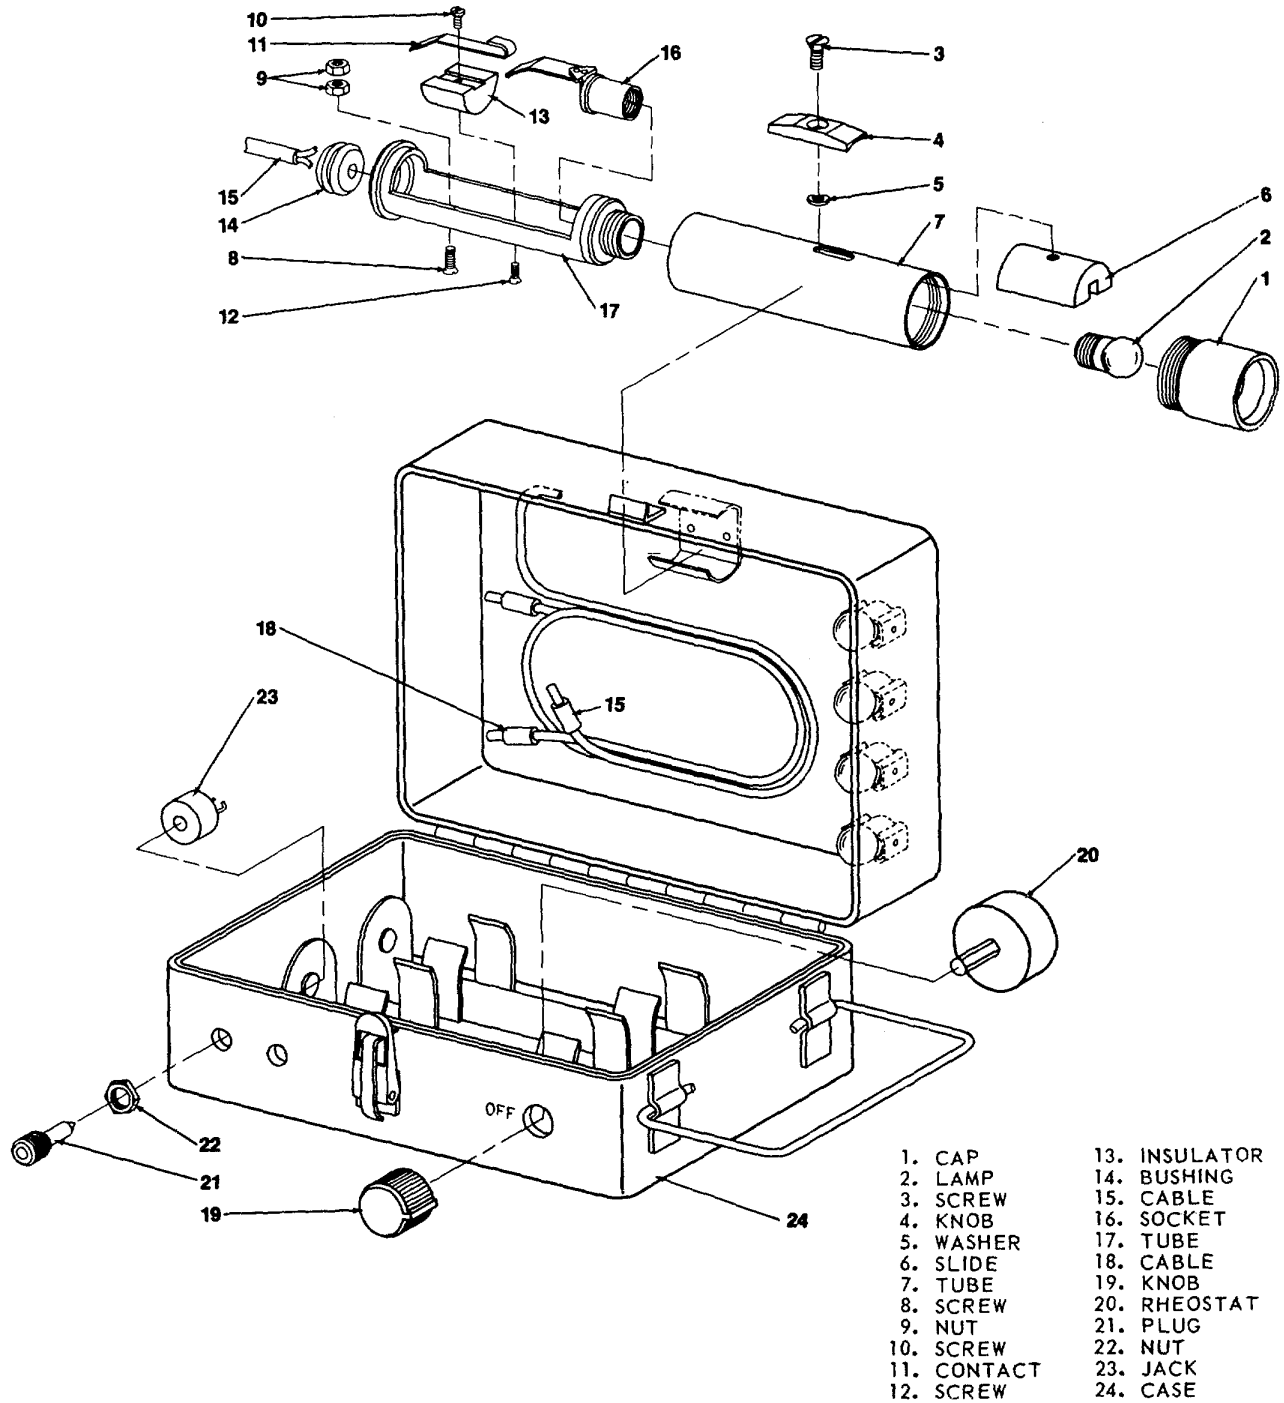

Figure 7-5. Battery case, exploded view.
b. *Disassembly.* Disassemble battery case in the order of the index numbers in figure 7-5.